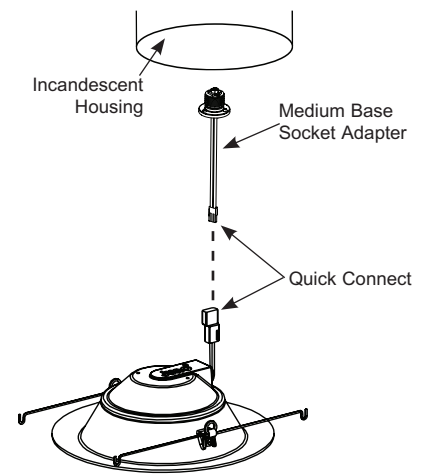

Figure 4
Step 3. Installation into existing housings with medium base sockets: Screw the medium base socket adaptor into the socket in the recessed housing. Plug the connector provided on the trim to the mating connector on the socket adaptor by pushing firmly to ensure connectors are securely fastened (see Fig. 4).